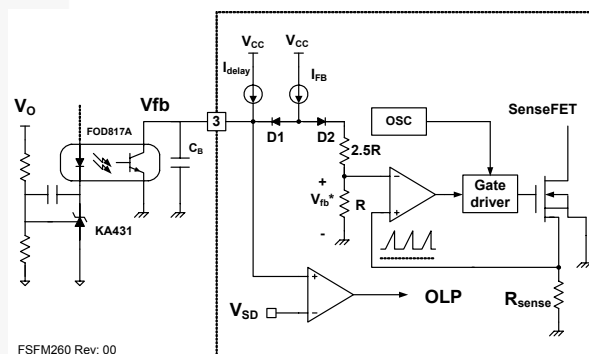

Figure 17. Pulse Width Modulation (PWM) Circuit
2. Feedback Control: FSFM260/261/300 employs current-mode control, as shown in Figure 17. An opto-coupler (such as the FOD817A) and shunt regulator (such as the KA431) are typically used to implement the feedback network. Comparing the feedback voltage with the voltage across the R_{SENSE} resistor makes it possible to control the switching duty cycle. When the reference pin voltage of the shunt regulator exceeds the internal reference voltage of 2.5V, the opto coupler LED current increases, pulling down the feedback voltage and reducing the duty cycle. This typically occurs when the input voltage is increased or the output load is decreased.
2.1 Pulse-by-Pulse Current Limit: Because current-mode control is employed, the peak current through the SenseFET is determined by the inverting input of the PWM comparator (V_{FB}^*), as shown in Figure 17. When the current through the opto-transistor is zero and the current limit pin (#4) is left floating, the feedback current source (I_{FB}) of 0.9mA flows only through the internal resistor ($R+2.5R=2.8k$). In this case, the cathode voltage of diode D2 and the peak drain current have maximum